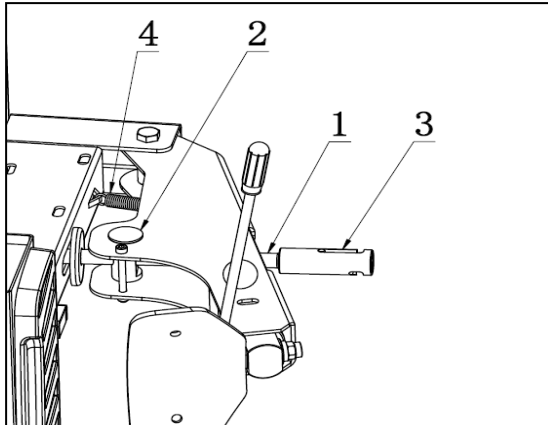

FIG9
- ◇ As shown in Fig9, plug cylinder rod (FIG9-1) into the hole of bead breaking arm slide bush (FIG9-2).
- ◇ Hang the spring (FIG9-4) like the FIG9.